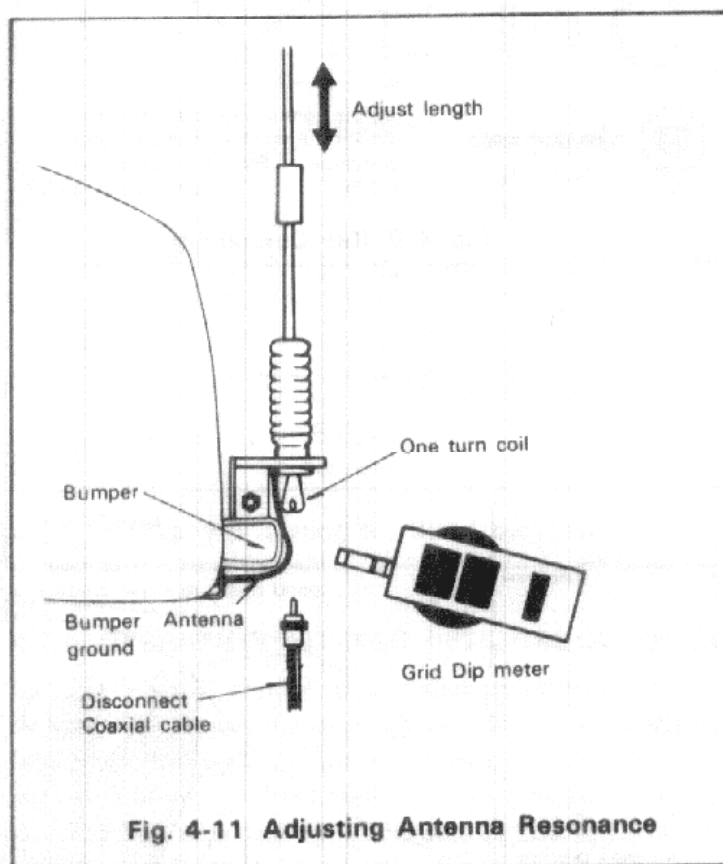

Fig. 4-11 Adjusting Antenna Resonance
(3) Antenna Adjustment (Fig. 4-11)
The antenna to be used should first be checked with a dip meter to insure that it is designed for your operating band, then the impedance matching should be checked with an SWR meter. (See Fig. 4-11)